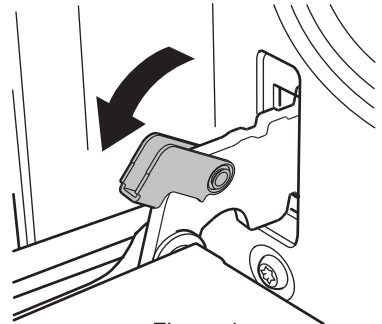

Figure 1
- To remove the door, open the door to the maximum angle. Then pull the buckle at the door hinge backward. (Figure 1) (Total 2 buckles at both sides of the door.)